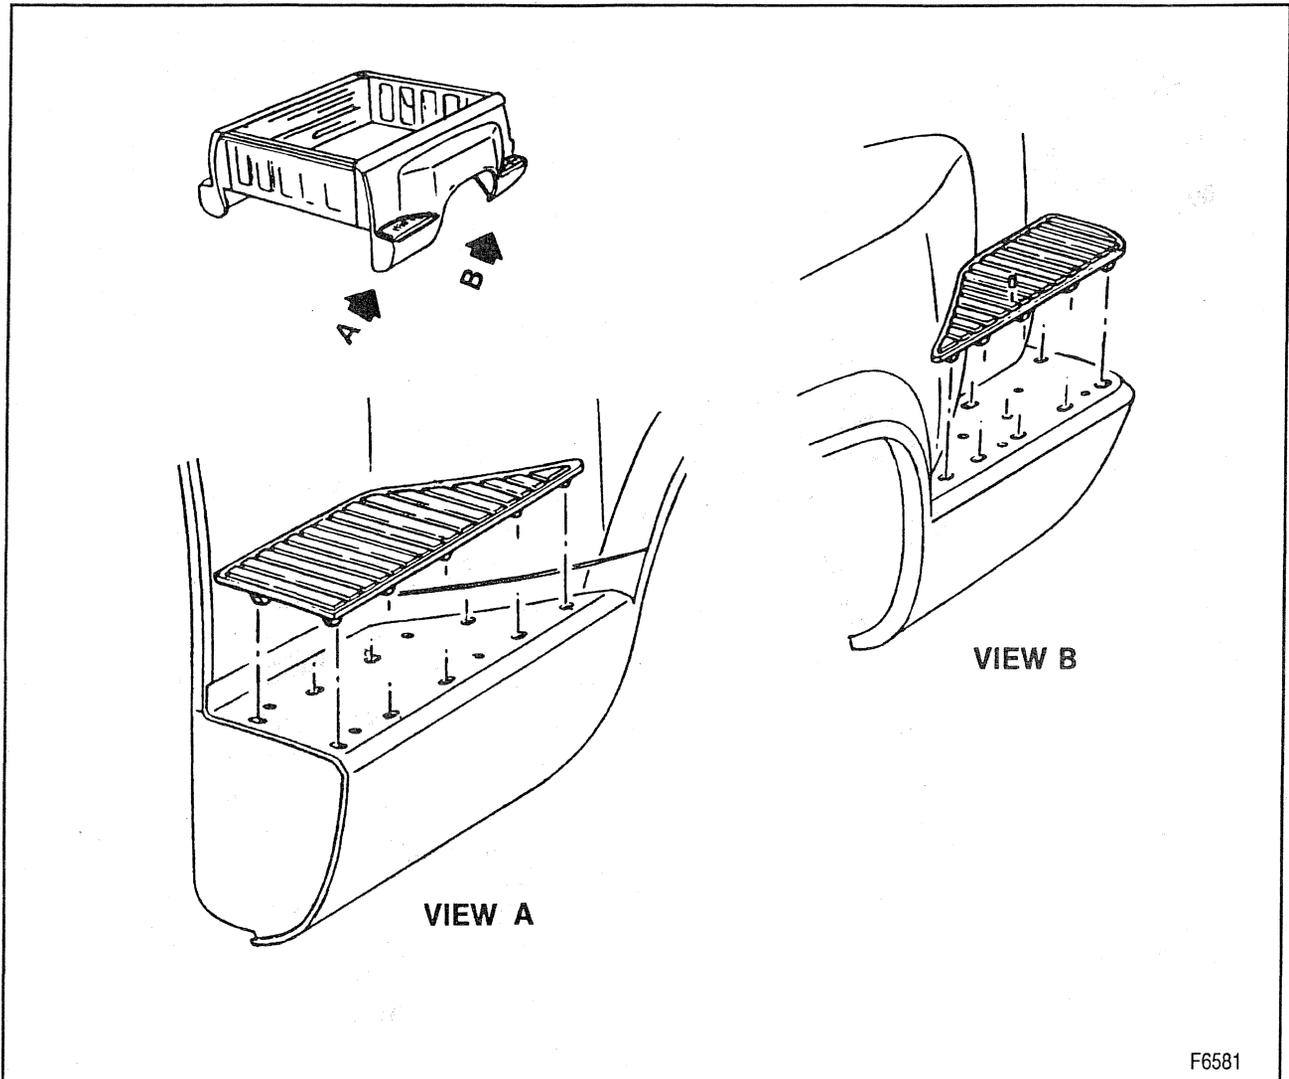

Figure 12—Step Pads
**Remove or Disconnect (Figures 12 through 15)**
1. Pads from fender steps (figure 12).
**Install or Connect (Figures 12 through 15)**